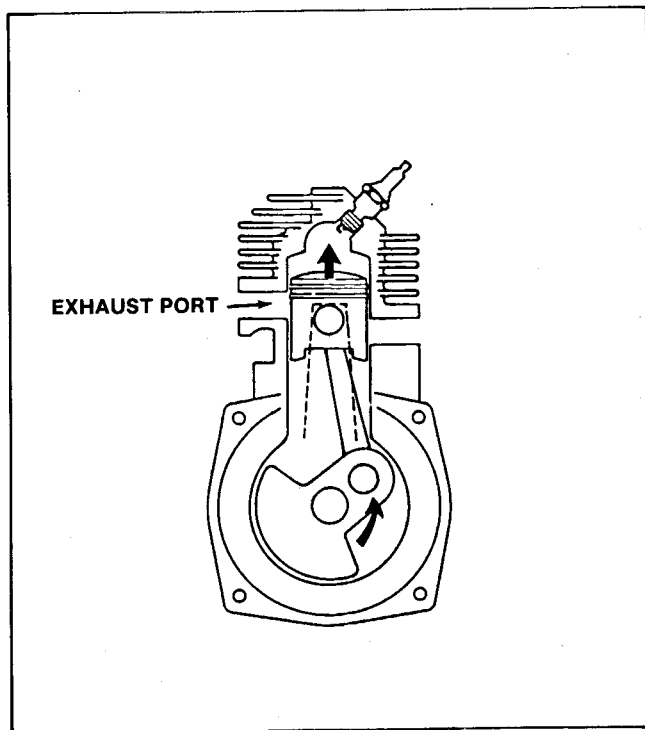

Figure 79
3. The piston covers the exhaust port which completely seals the combustion chamber. See Fig. 79.